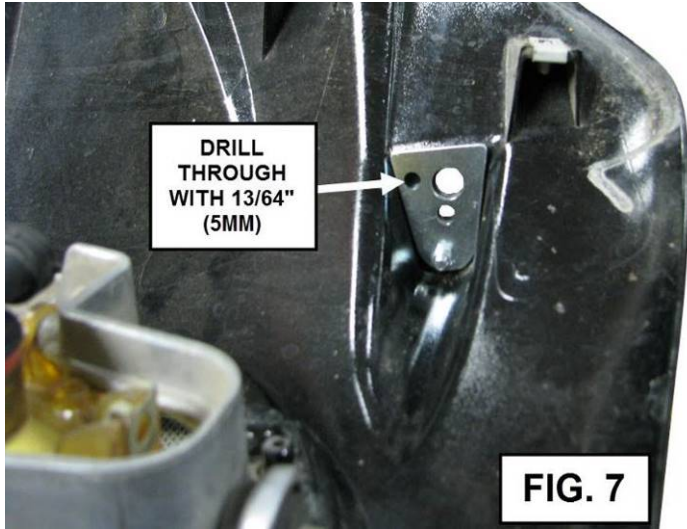

FIG. 7
15. USING A 13/64" (5MM) DRILL BIT DRILL THROUGH THE HOLE SHOWN IN FIG. 7 FROM THE INSIDE OF THE FAIRING. REMOVE ANY SHARP EDGES.